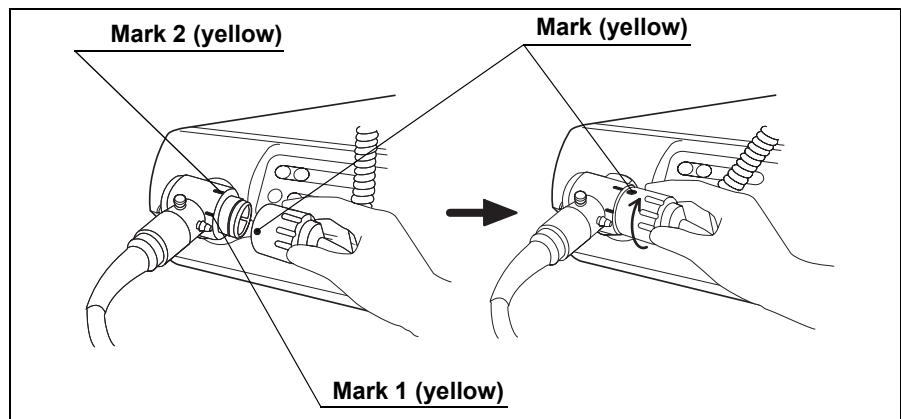

Figure 3.20
5. Align the mark on the videoscope cable EXERA II, the videoscope cable EXERA or the videoscope cable 100 with mark 1 on the endoscope connector and push it in until it stops (see Figure 3.20).
6. Turn the connector of the videoscope cable clockwise until it stops (see Figure 3.20).